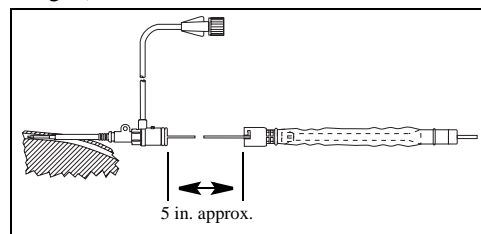

Fig. 8
21. Hold catheter in place and reposition catheter contamination shield so that distal hub is approximately five inches (12.7 cm) from hemostasis valve/side port assembly (refer to Fig. 8).